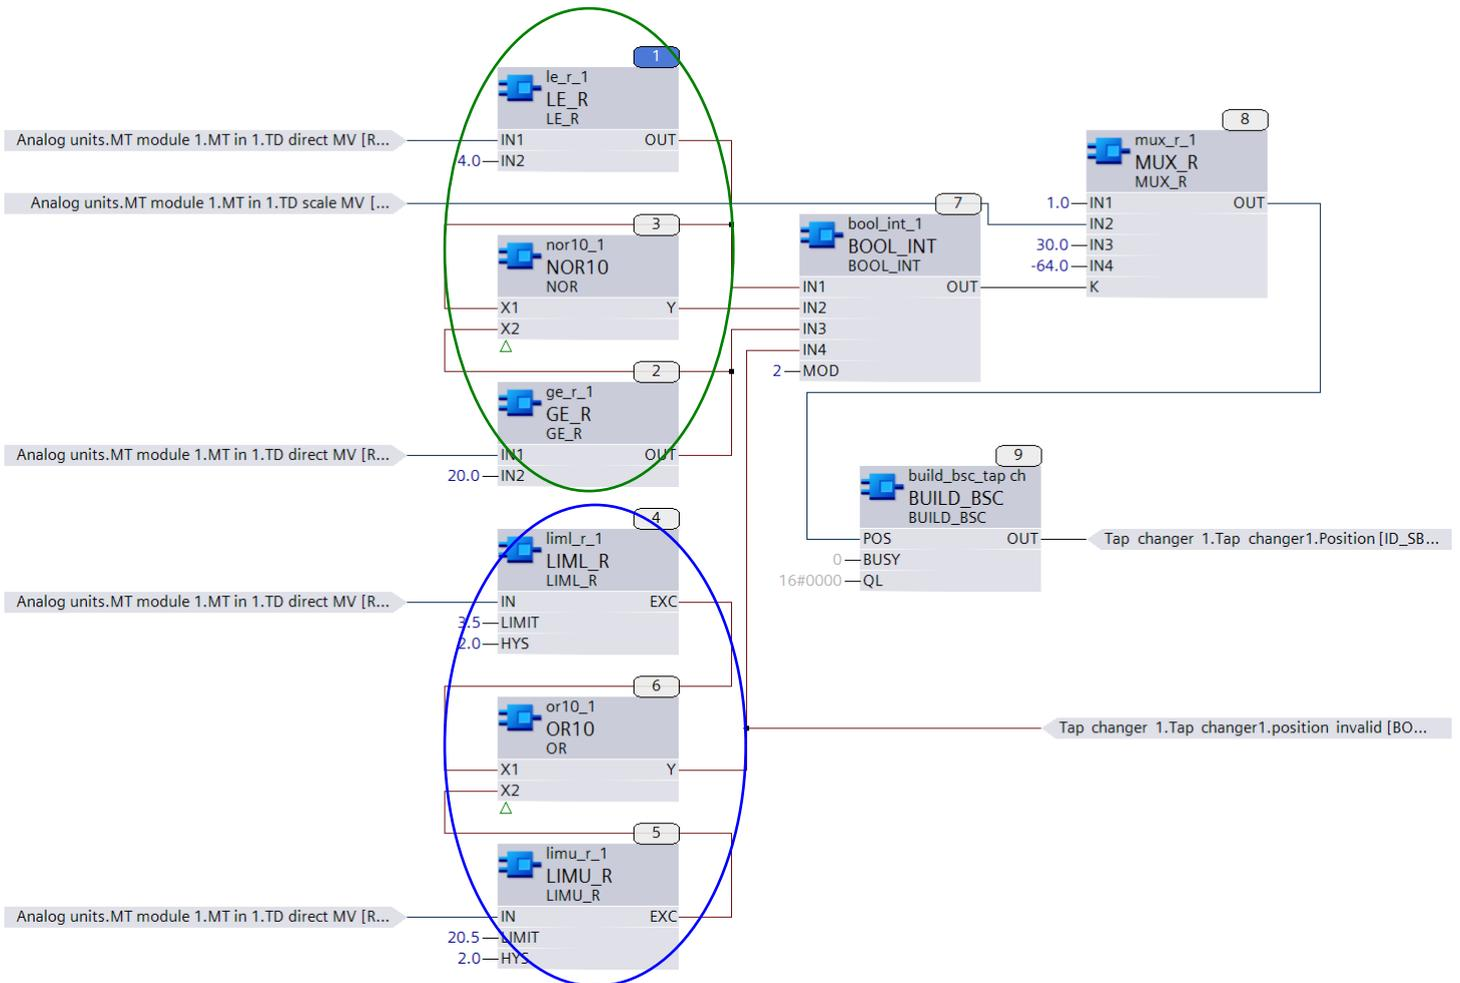

Fig.6: CFC logic for the transformation including the handling of invalid input signals.
If the input currents are slightly outside of the defined band, the BUILD_BSC (1) in fig. 5 component might output an invalid position instead of the corresponding lower or upper end tap position. As a consequence of the undefined current, the scaled value might fall out of the valid position range. This causes the output of the invalid position. If it cannot be guaranteed that the input signal always lies within the preset range, the CFC plan must be extended. The invalid states are dealt with through two comparisons: LE_R (1) and GE_R (2), and the MUX_R (8) as follows (see fig.6).